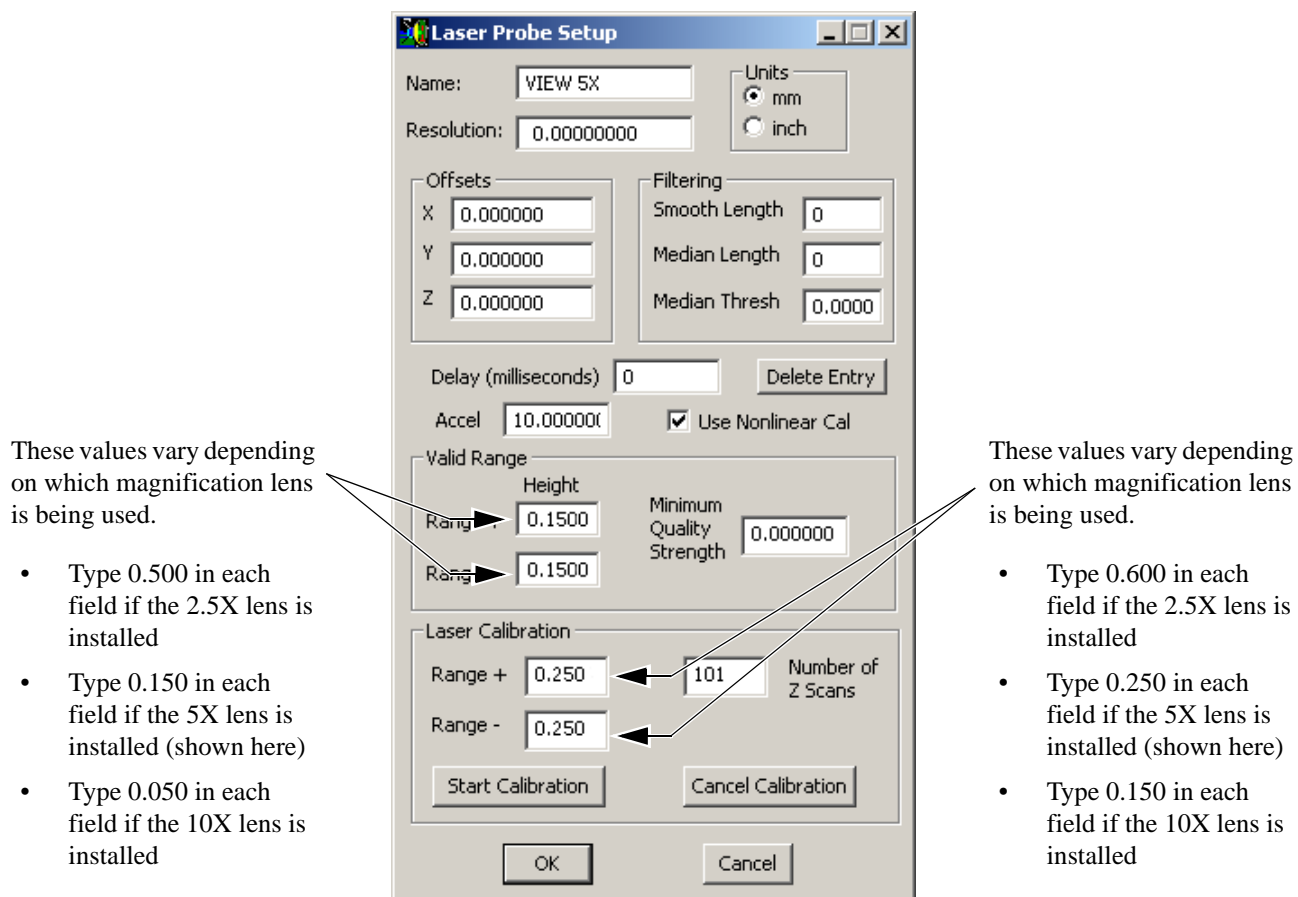

Figure B-14 Laser Probe Calibration Window
5. Select **Setup / Laser Probes** and the currently installed lens to display the Laser Probe Calibration window (see Figure B-14).
6. If necessary, edit the fields to match those shown in Figure B-14.